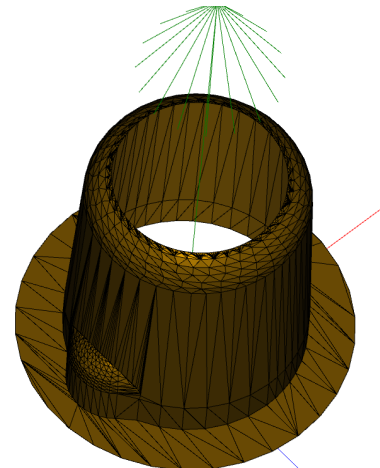

Fig. 4: Sample geometry for usage of titanium base with rotation lock
- Tool diameter compensation and cement gap (typically, 30µm) should be applied to connection geometry. Please look at Fig. 4 or an existing implant library for examples on how it should look.